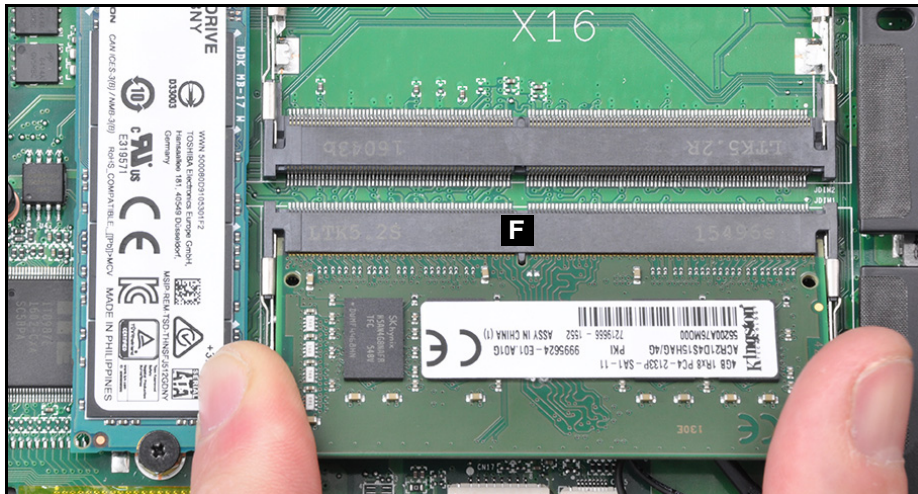

Figure 3-15. DIMM Removal
5. Remove the DIMM from the mainboard connector (F) (Figure 3-15).